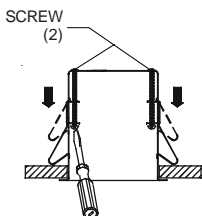

FIG.4
4. Tighten the 2 screws to adjust the edge of the ceiling housing. (Fig.4)
5. Tighten the 2 screws on the housing to adjust the edge of the housing to the ceiling. (Fig.4)